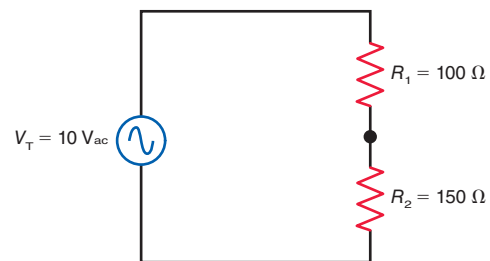

Figure 14-32
- 14.24** In Fig. 14-32, solve for the following values: R_T , I , V_1 , V_2 , P_1 , P_2 , and P_T .